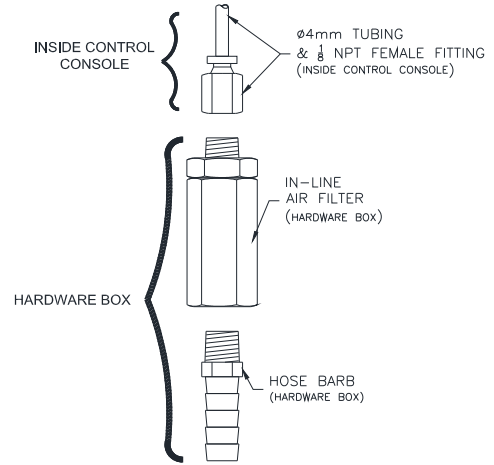

Fig. 6 – Air Connection
14) Inside the control console locate the (2) Ø4mm air lines. One will lead to the pads, the other air line will have a 1/8 NPT female fitting to connect the inline air filter and hose barb (from the hardware box) to, Fig. 6.